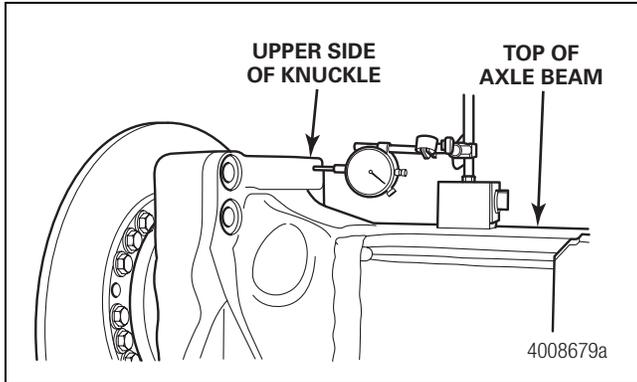

Figure 10.13
3. Check the upper king pin bushing for wear. Install the base of a dial indicator onto the axle beam. Place the indicator tip against the upper side of the knuckle. Figure 10.13.